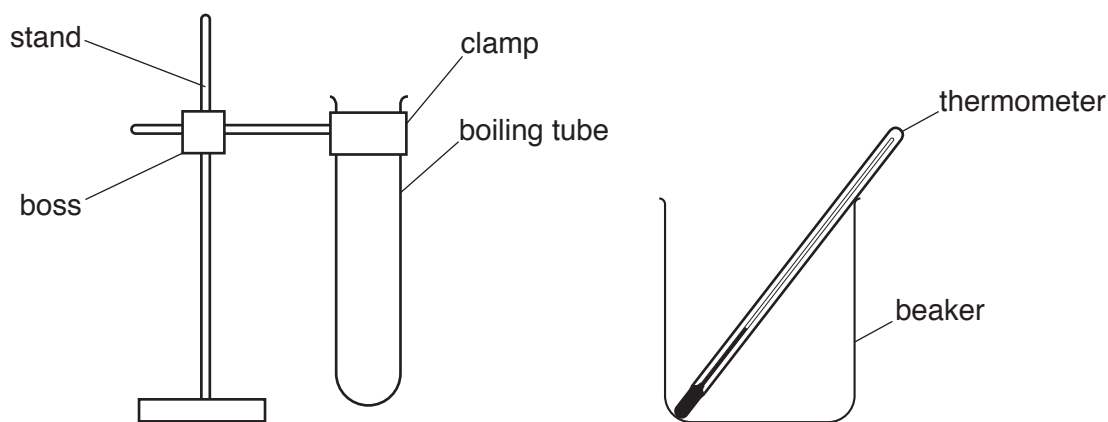

Fig. 1.1
1. The apparatus should be supplied to candidates as shown in Fig. 1.1.